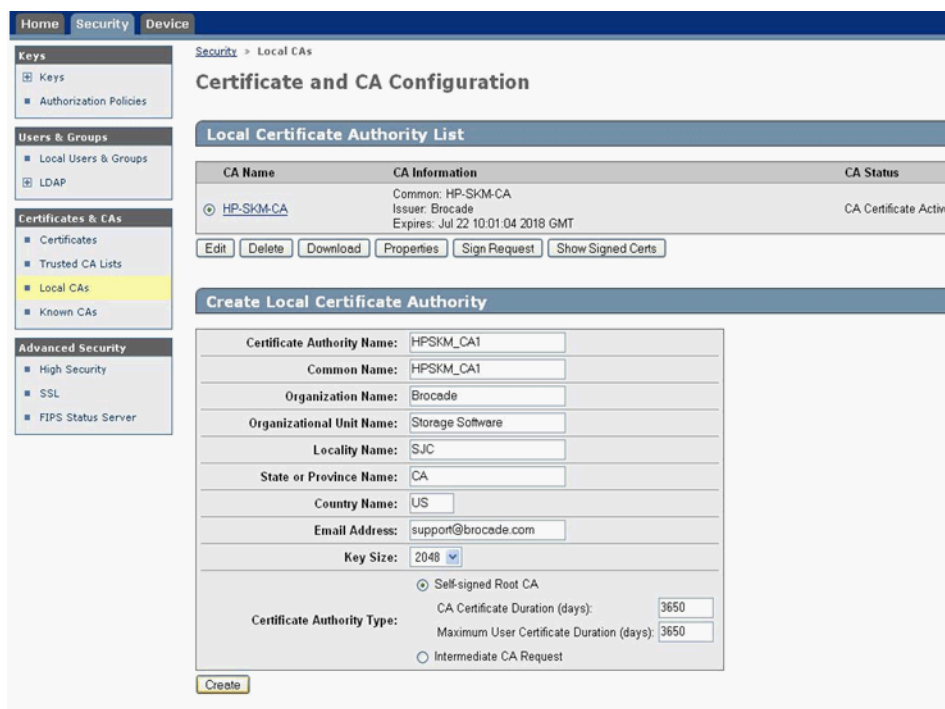

FIGURE 208 Creating an HP ESKM/SKM local CA
3. Under **Certificates & CAs**, click **Local CAs**. (Refer to Figure 208.)